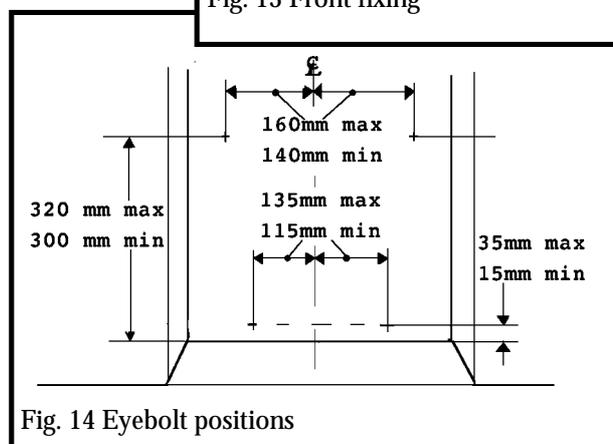

Fig. 14 Eyebolt positions
7.2.1 Drill four holes in the rear wall of the fireplace for the eyebolt plugs. The holes should be drilled within the range of positions shown in figure 14 using a no.12 masonry drill. The holes should be equidistant each side of the centre line of the fireplace to ensure that the appliance finishes centrally in the opening when tension is applied to the cables.